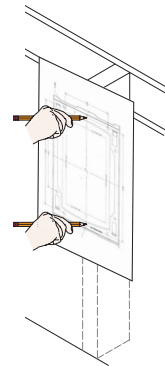

Figure 2
- 3 Mark where the top and bottom middle screw holes will be on the wall according to the paper template (Figure 2).
- 8 Insert two (2) #10 x 2" wood screws into the middle screw holes to fasten the back plate to the wall (Figure 2).